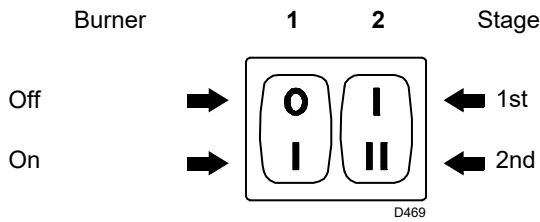
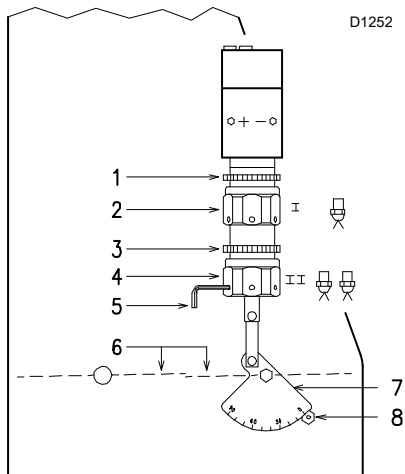

Fig. 20
Fig. 21
- Start the burner by closing the control devices and with switch 1)(page 18 Fig. 20) in the "ON" position. The pump must rotate in the direction of the arrow marked on the cover.
- The pump can be considered to be primed when the light oil starts coming out of the screw 3). Stop the burner: switch 1)(page 18 Fig. 20) set to "OFF" and tighten the screw 3).
Set switch 1)(Fig. 20) to "ON".
Keep the burner operating at 1st stage by setting the switch 2)(Fig. 20) to the 1st stage position. Opening of the air gate valves 6)(Fig. 21) must be adjusted in proportion to the selected nozzle: the index 8)(Fig. 21) must be aligned with the notch indicated on the graduated sector 7)(Fig. 21). This adjustment is achieved by turning the hex element 2)(Fig. 21):
Set switch 2)(Fig. 20 page 18) to the 2nd stage position and adjust the air gate valve 6)(Fig. 21) by turning the hex element 4)(Fig. 21), after having loosened the ring nut 3)(Fig. 21).
in order to facilitate adjustment of hex elements 2) and 4)(Fig. 21), use a 3 mm Allen key 5)(Fig. 21).